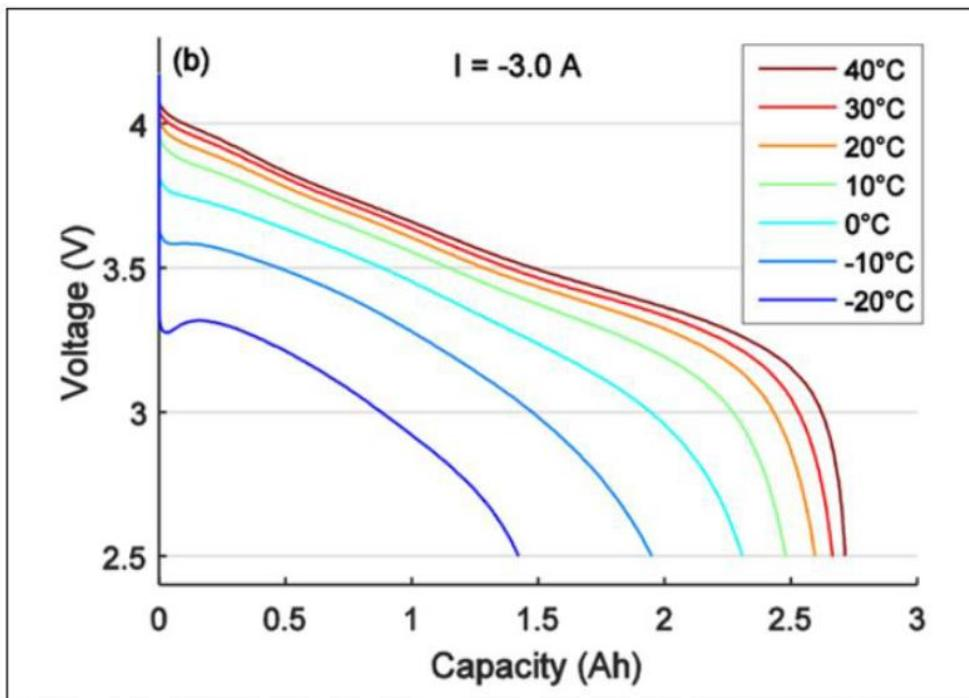

Figure 1: Discharge voltage of an 18650 Li-ion cell at 3A and various temperatures.
Figure 1 illustrates the discharge voltage of an 18650 Li-ion under various temperatures. A 3A discharge of a 2.8Ah cell represents a C-rate of 1.07C. The reduced capacity at low temperature only applies while the cell is in that condition and will recover in room temperature.
The Peukert Law takes into account the internal resistance and recovery rate of a battery. A value close to one (1) indicates a well-performing battery with good efficiency and minimal loss; a higher number reflects a less efficient battery. Peukert's law is exponential; the readings for lead acid are between 1.3 and 1.5 and increase with age. Temperature also affects the readings. Figure 1 illustrates the available capacity as a function of amperes drawn with different Peukert ratings.
**Figure 1: Available capacity of a lead acid battery at Peukert numbers of 1.08–1.50.** A value close to 1 has the smallest losses; higher numbers deliver lower capacities. Peukert values change with battery type age and temperature: